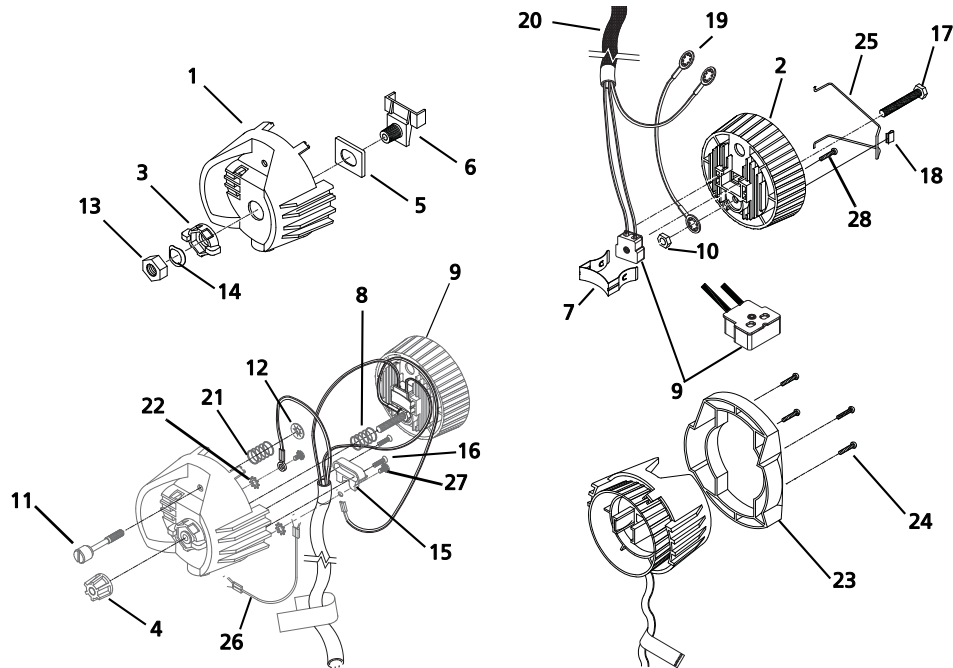

Figure 2
- 14: Using the four screws (24), attach the handle (23) to the lamp socket assembly. See Figure 2.